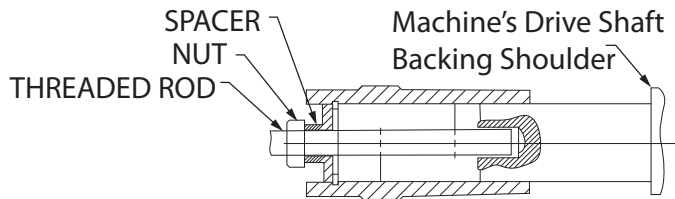
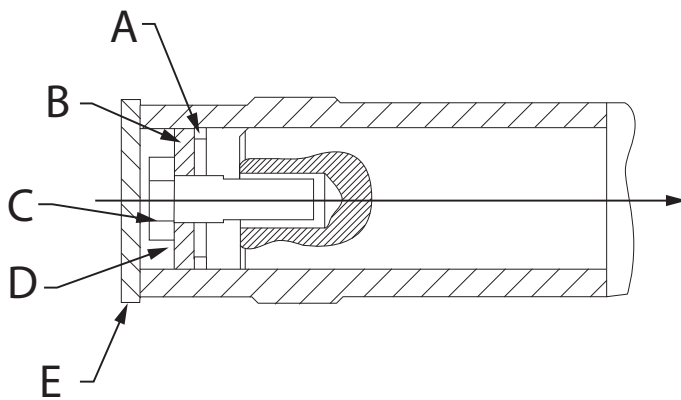

Figure 3 - Threaded Rod and Nut Assembly
Figure 4 - Finished Assembly
All shaft mounted gearboxes are furnished with A) retaining ring, B) keep plate, C) retaining bolt, D) spring washer, E) dust cap and anti-seize as shown in the finished assembly (see Figure 4). Apply the anti-seize onto the customer shaft before installing reducer onto the shaft. The gearbox is pulled onto the shaft by means of a threaded rod and nut assembly as shown in Figure 3 below. The threaded rod and spacer are not supplied. The threaded rod (M) is specified in Table 5 or 6. After the gearbox has been pulled completely onto the machine shaft firmly against the machine shaft's backing shoulder, it must be locked in place with the retaining bolt tightened to the tightening torque shown in Table 4.